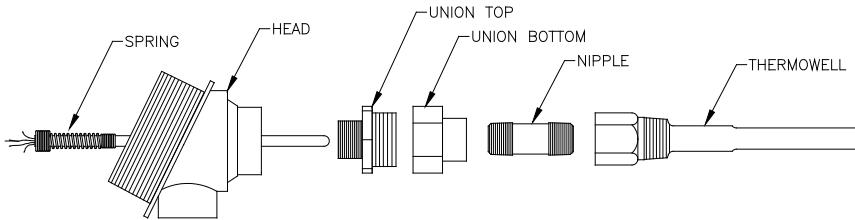

Fig. 6: RTD probe assembly
1. Install the thermowell into the meter run, and tighten (Fig. 6). Install the $\frac{1}{2}$ " stainless steel nipple into the thermowell, and tighten. Separate the union, and install the female end of the union along with its nut onto the nipple. Once completed, tighten. With the RTD head still loose, screw the male end of the union into the bottom of the head, and tighten.